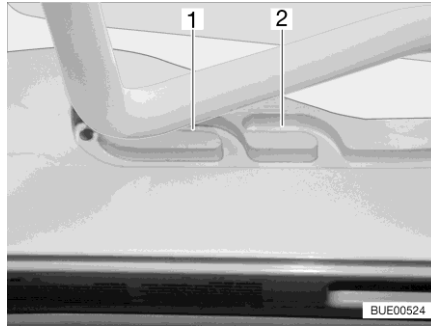
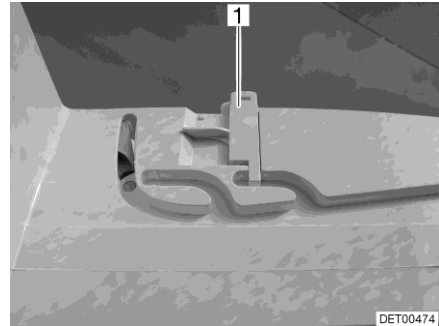

Fig. 23 Guide (ventilation position)
Fig. 24 Lock (ventilation position)
The Heki skylight can be put in two ventilation positions: Bad weather position (Fig. 23,1) and central position (Fig. 23,2). Depending on the model, the skylight can be locked in the central position with both left and right latches (Fig. 24,1) on the skylight frame.
- Push the bar slightly upwards and into the selected guide (Fig. 23,1 or 2) and lock if necessary.